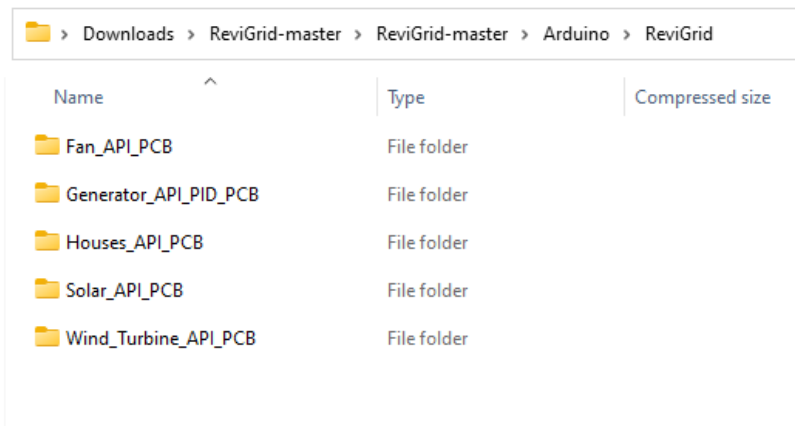

Figure 1.3 ReviGrid folder content
- Open the zip folder and navigate to the folder in ...\\Arduino\\ReviGrid as shown in Figure 1.3.